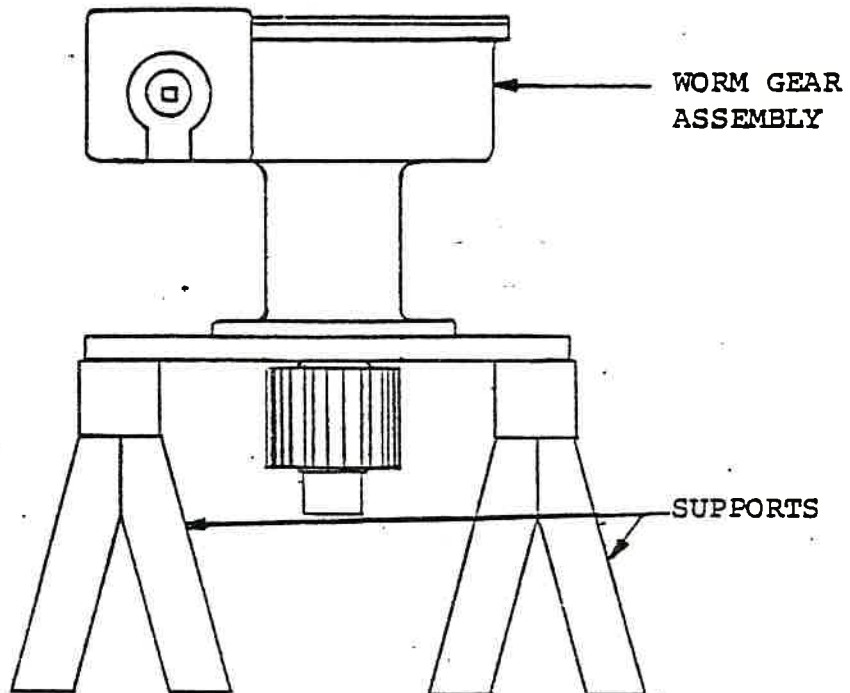

Fig. 2
5. Place the worm gear unit on saw-horse type supports as shown in Fig. 2. Make sure this device will support the weight of the worm gear unit.